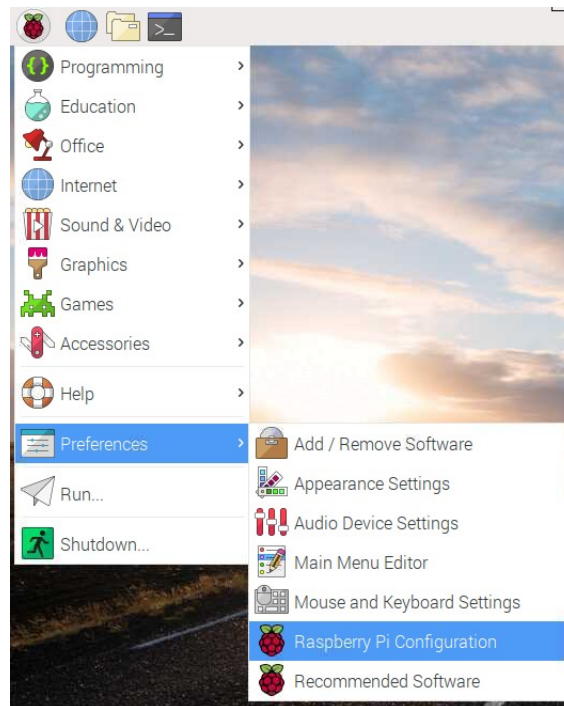

Figure 16.3: Raspberry Pi Configuration Menu
- Go to **Preferences** → **Raspberry Pi Configuration**, as shown in Figure 16.3.